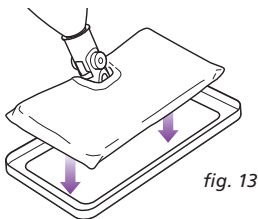

fig. 13
- 1 The Carpet Glider can be used with the All-Purpose Head to lightly steam your carpet and area rugs. Just place the mop head with cleaning pad attached into the glider. The recommended steam setting is **SCRUB** when using the Carpet Glider. (fig. 13)